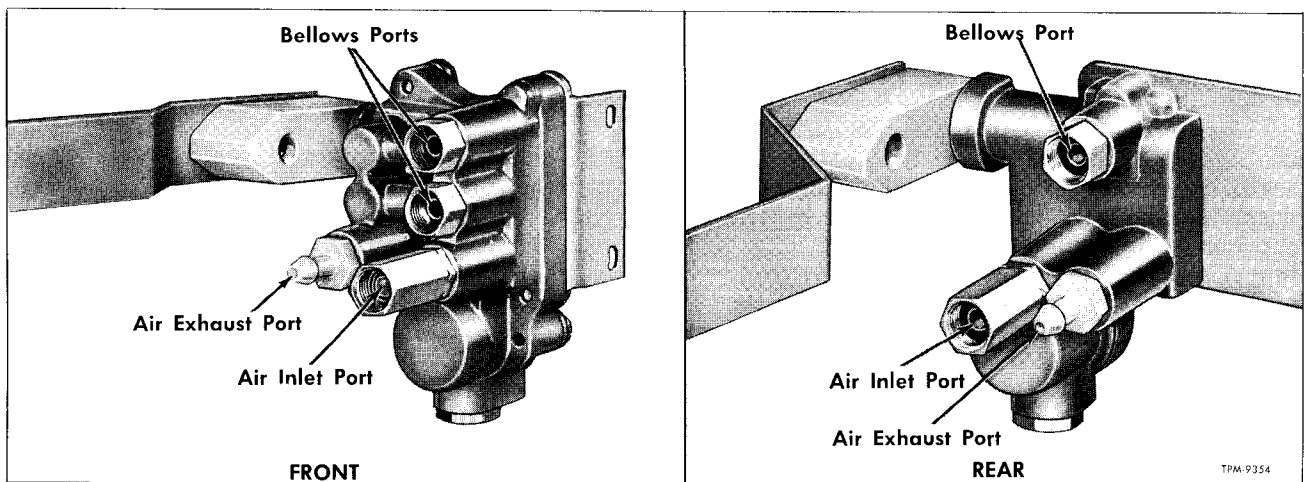

Figure 27—Identification of Valve Air Ports
2. Connect air pressure line to air inlet port (fig. 27), then open the air pressure (80-110 psi).
5. Remove air pressure line from air inlet fitting and connect it to the bellows port (fig. 27). If bubbles appear at the air inlet check valve port, this is an indication that check valve unit is defective and must be replaced.
6. If bubbles appear at the exhaust port (fig. 27), it is an indication that the exhaust valve assembly is defective and must be replaced.
- If vacuum source is available, attach supply hose to valve exhaust port (fig. 27) using Sun Tester fitting #115-3 or equivalent. Do not apply vacuum at this time.
- Attach air pressure supply hose to air inlet port (fig. 27). Do not apply pressure at this time.
1. Connect air supply hose (80 to 110 psi) to air inlet port (fig. 27).
ting, disconnect air supply from the air inlet port and connect it to the bellows port (fig. 27).
1. Connect air pressure supply hose to valve air inlet port (fig. 27).
a. Connect vacuum hose to air exhaust port (fig. 27). Adjust vacuum to 15 inches.
b. Connect air pressure supply hose to bellows port (fig. 27).